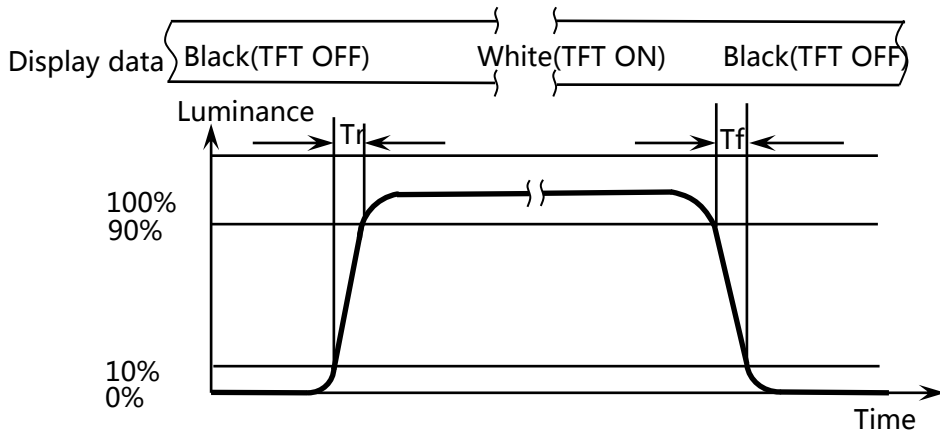

Figure 9. Response Time Testing
3. The figure 9 shows a polar coordinate system to define viewing angles or measurement angles relative to the surface of a display. Customarily, the “top” side of the display corresponds to the “12 o’clock” viewing direction ($\varphi = 90^\circ$), and other viewing directions are similarly related to positions of the hour hand on a clock. The sub-pixel drawn is to illustrate the orientation of the display active area